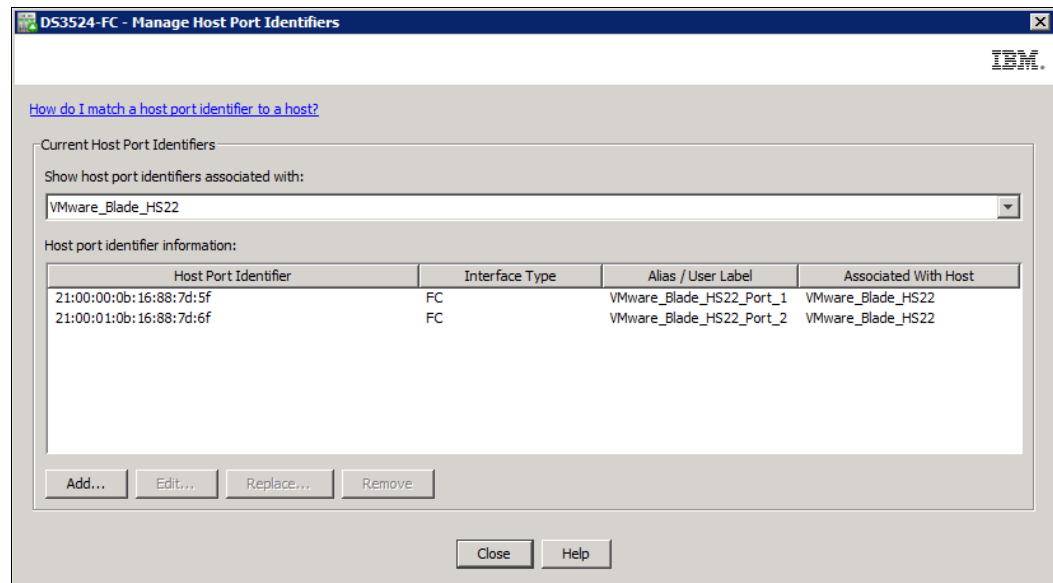

Figure 22-2 Storage partitioning
3. Storage partition: From the IBM DS Storage Manager mapping window, create a VMware host and define the host ports of the Fibre Channel HBAs as shown in Figure 22-2 on page 650.